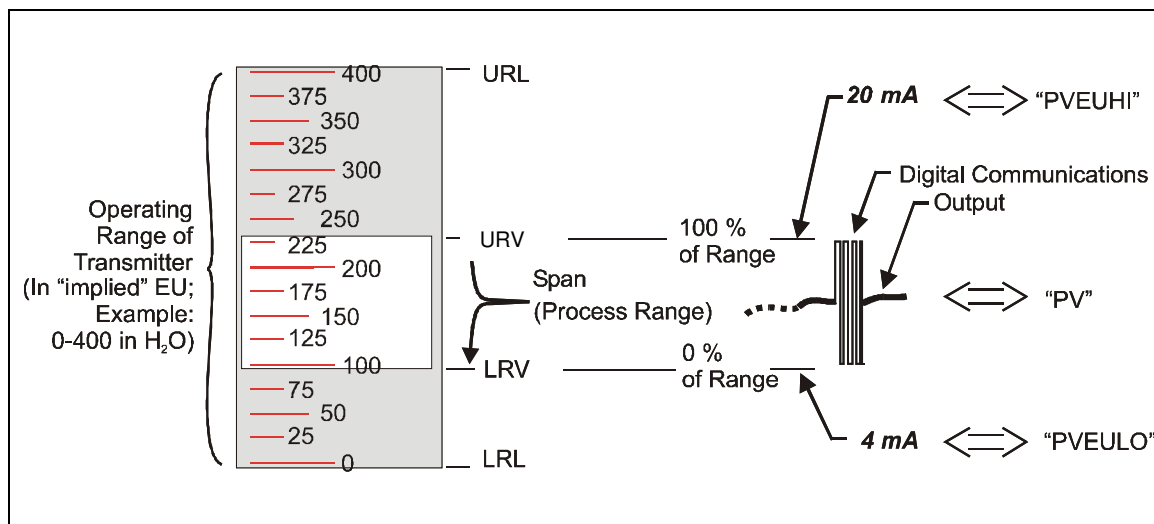

Figure 2-2 Honeywell Analog Value Scaling
As indicated at key number (4) in Figure 2-2, the Honeywell Smart Transmitter includes a path for digital communications between the sensor (via the microprocessor) and the 4-20 mA current loop that
The diagram in Figure 2-2 provides an overview of a Honeywell transmitter operating in the analog mode.
The vertical scale at the left of Figure 2-2 is an example of the available range (LRL to URL) of a pressure transmitter sensor as built and characterized at the factory. The area of this scale that is highlighted in white represents the configured process operating range (LRV to URV) - in this case, from 100 in H₂O to 225 in H₂O.
Note that Engineering Units (EUs) shown in Figure 2-2 are included here only for reference. The transmitter does not perform any conversion of the base units' value to Engineering Units. All conversion to EUs is performed in the MC Toolkit and/or in other receiving devices such as operating panels associated with control equipment. Default conversion is to inches-H₂O @39°F.)
At the right of Figure 2-2, "PVEULO", "PV", and "PVEUHI" are examples of parameter names that appear on Honeywell control equipment, which are used as follows.
As indicated at the right of Figure 2-2, communications between the MC Toolkit and the Honeywell Smart Transmitter consist of digital pulse strings, with rapid transitions of current level between (approximately) 4 mA and 20 mA.